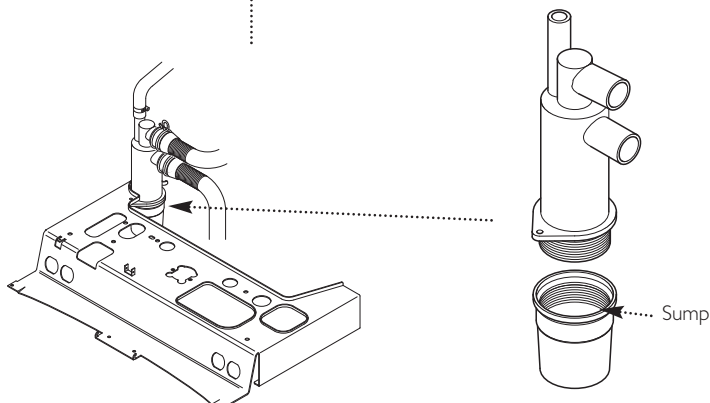

Fig. 57
5. Unscrew the sump from the bottom of the condensate trap assembly (Fig. 57) and remove any deposits from the sump and trap. Clean as necessary and replace the sump.